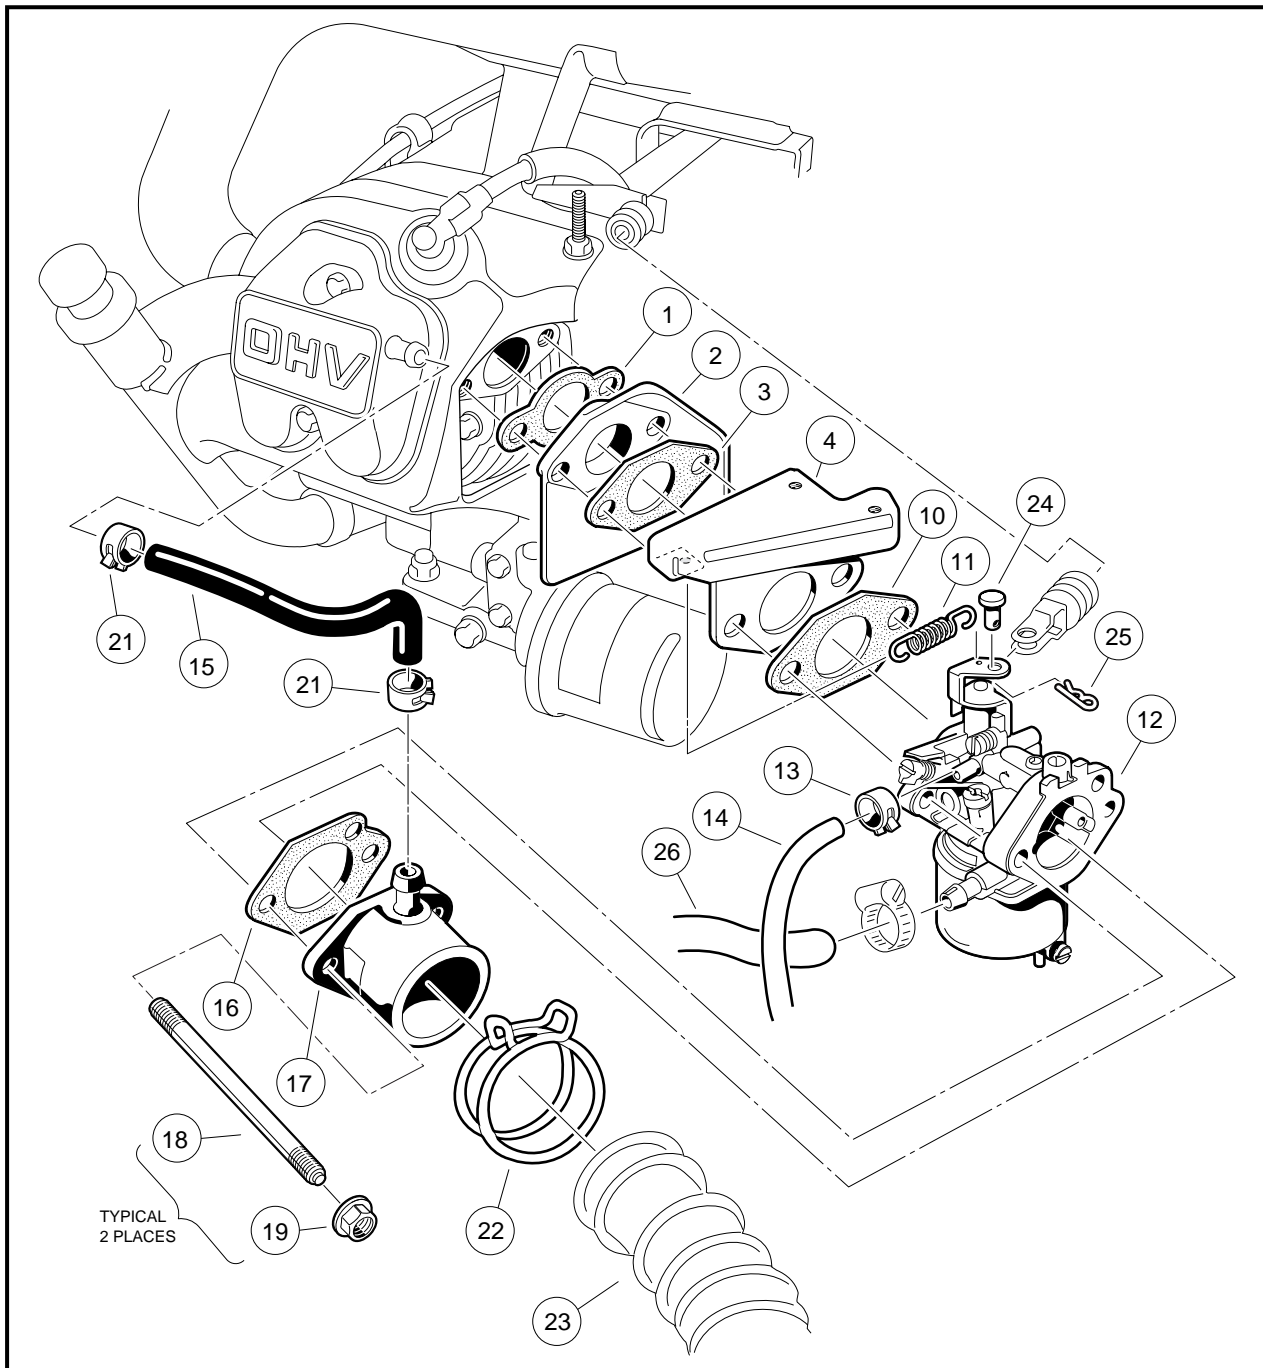

Figure 14-6 Carburetor Installation
1. Remove the carburetor (**Figure 14-6, Page 14-6**).
- 1.7. Remove the carburetor retaining nuts (19), intake pipe (17), and carburetor (12). **See following NOTE.**
NOTE: Note the orientation of the gasket (16), between the carburetor intake pipe (17) and the carburetor body (12) so that it can be replaced in the same orientation (**Figure 14-6, Page 14-6**).
12. Install the carburetor on the engine (**Figure 14-6, Page 14-6**).
- 12.1. Attach the throttle return spring (11) to the carburetor and then to the throttle bracket (4) just before positioning the carburetor and securing it to the engine (**Figure 14-6, Page 14-6**).
- 12.2. Install the intake pipe gasket (16) (check for proper orientation) and intake pipe (17) (**Figure 14-6, Page 14-6**).
- 12.3. Install the carburetor retaining nuts (19) and tighten them to 50 in-lb (5.7 N·m) (**Figure 14-6, Page 14-6**).
13. Connect fuel supply line (26) and tighten screw clamp to 9 in-lb (1.0 N·m) (**Figure 14-6, Page 14-6**).
14. Install carburetor vent line (14) and clamp (13) (**Figure 14-6, Page 14-6**).
15. Install the governor cable clevis pin (24) and cotter pin (25) (**Figure 14-6, Page 14-6**).
16. Install the intake hose (23) and secure with hose clamp (**Figure 14-6, Page 14-6**).
2. Remove the cotter pin (25) and clevis pin (24) at the carburetor throttle bracket (**Figure 14-6, Page 14-6**).